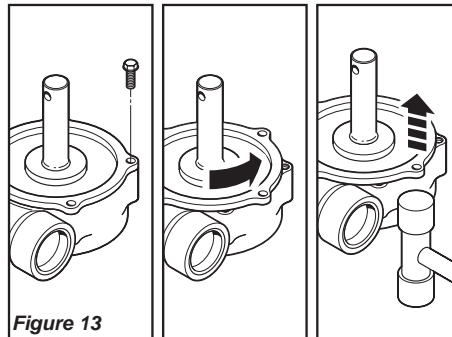

Figure 13
3. Turn gearcase side plate to break the seal and lift the plate from the gearcase. See Figure 13.